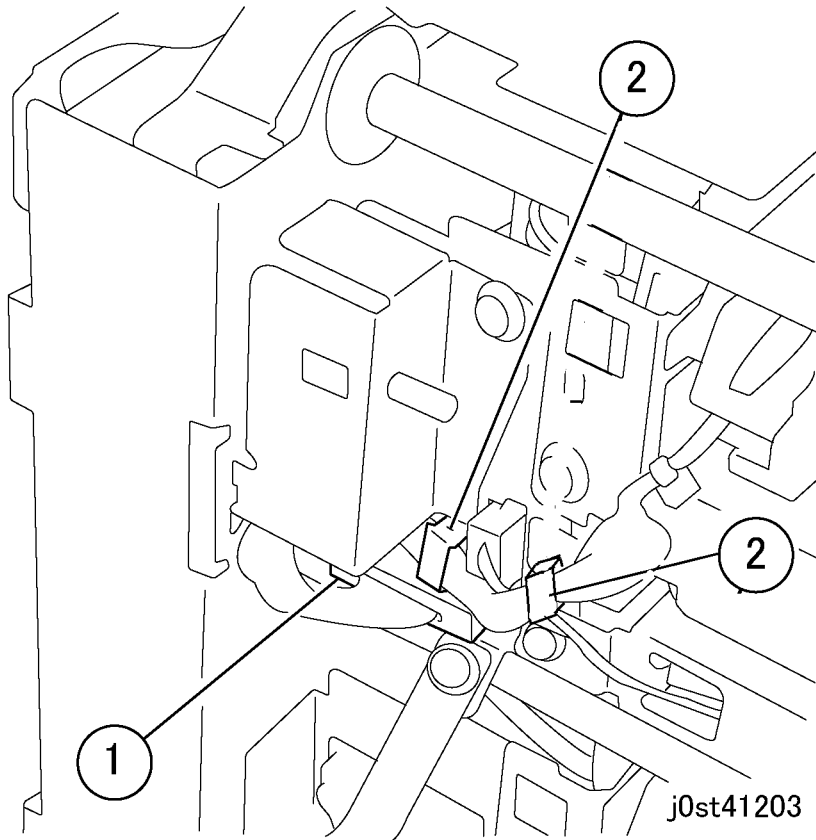

Figure 5 Disconnecting the connector
7. Disconnect the connector. (Figure 5)